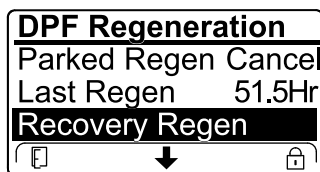

Figure 43
- If the engine computer has not requested a recovery regeneration and you scroll down to the RECOVERY REGEN option, the recovery regeneration locks and the lock icon (Figure 43) appears in the lower right corner of the InfoCenter.